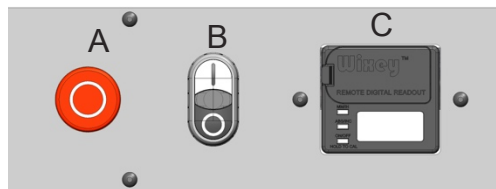

Figure 7: Control Panel
5. Adjust feed speed (Fig. 7, C) to desired speed (16 or 28 FPM), while planer is running.